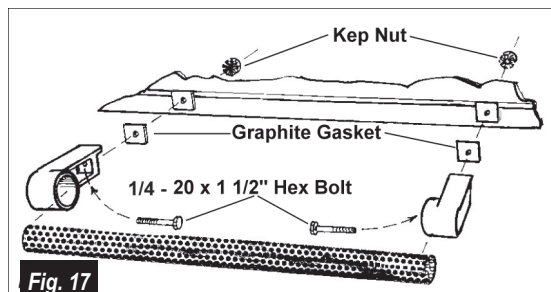

Fig. 17
1. Attach the handle to the grill lid using two 1/4 - 20 x 1 1/2" Hex bolts with Kep nuts. Graphite Gaskets are positioned between the end caps and grill lid as shown in Fig. 17. Use two 7/16" wrenches, one to hold the bolt head and one to tighten the nut.